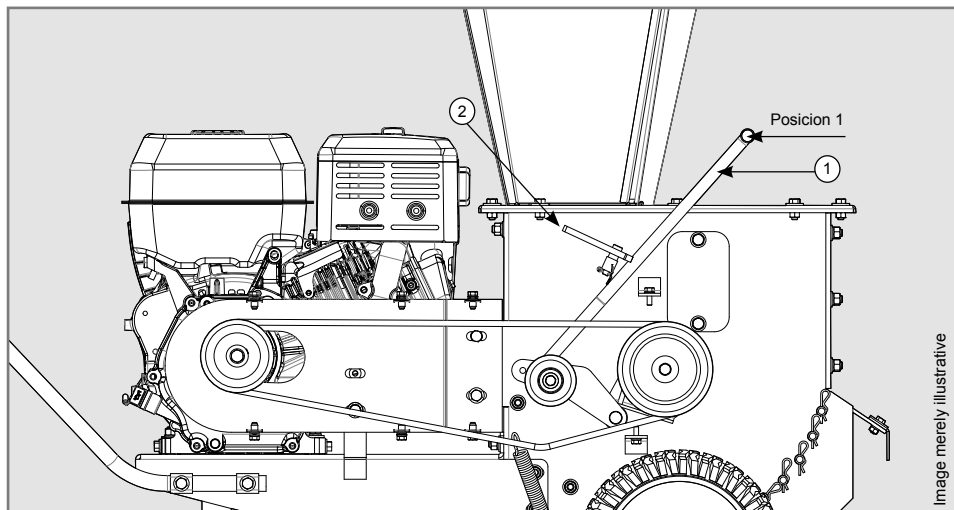

Figure 6
- ✓ Before turning it on and starting the engine, make sure that the belt tensioner lever (1) is in position 1, as shown in Figure 6.